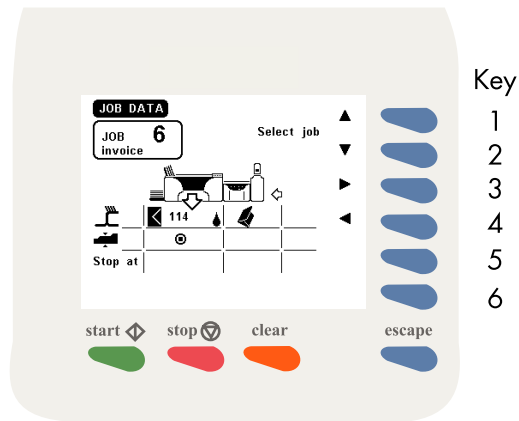

Fig. 12
When key 1 is pressed in the "main menu", the job info screen will be displayed (see Fig. 12). The job info screen shows the following functions:
- select a higher job number (key 1).
- select a lower job number (key 2).
- go to the job data of the upstream (transport) module (key 3).